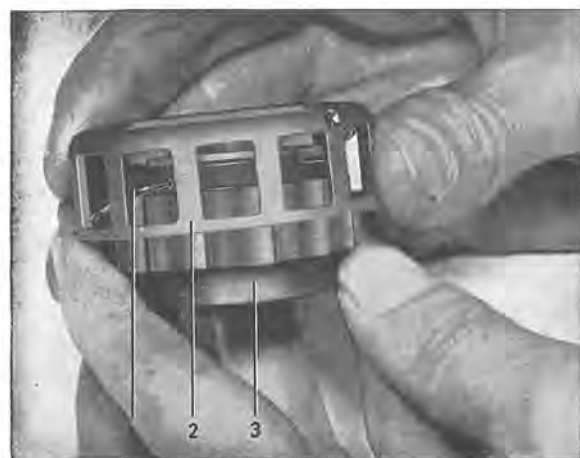

Fig. 4-54. Assembling uni-directional clutch, I
5. Assemble the uni-directional clutch, spring and roller cage, see Fig. 4-54. Turn the roller cage clockwise as far as it will go and lock it in this position with a key as shown in Fig. 4-55. Place in the rollers. Tie a piece of rubber band or string round the rollers.